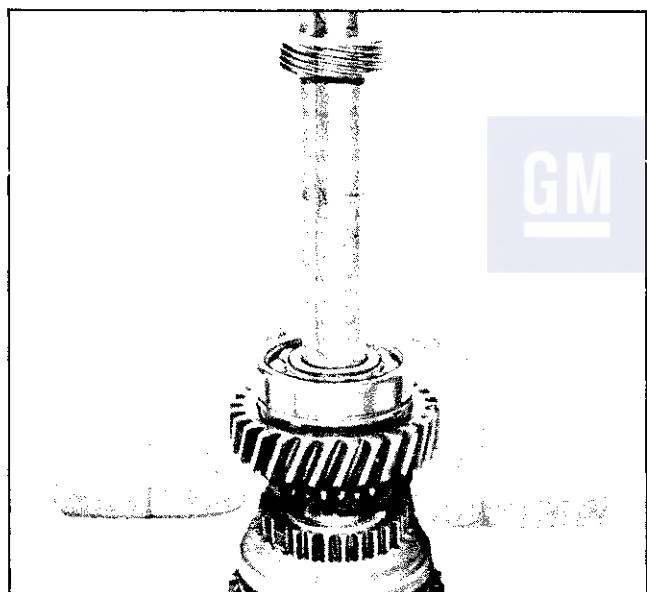

Fig. 7C-11 Removing Rear Bearing and First Speed Gear
17. Remove the 1st and 2nd synchronizer snap ring from mainshaft and press synchronizer assembly, 2nd speed blocker ring and second speed gear off end of mainshaft (Fig. 7C-12).